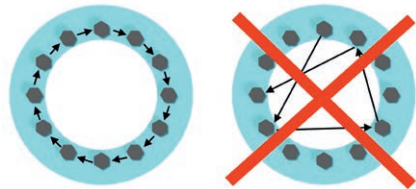

FIGURE 11. Tightening order of shrink disc screws
6. Tighten all the clamping screws evenly in a circle, as shown in Figure 11.